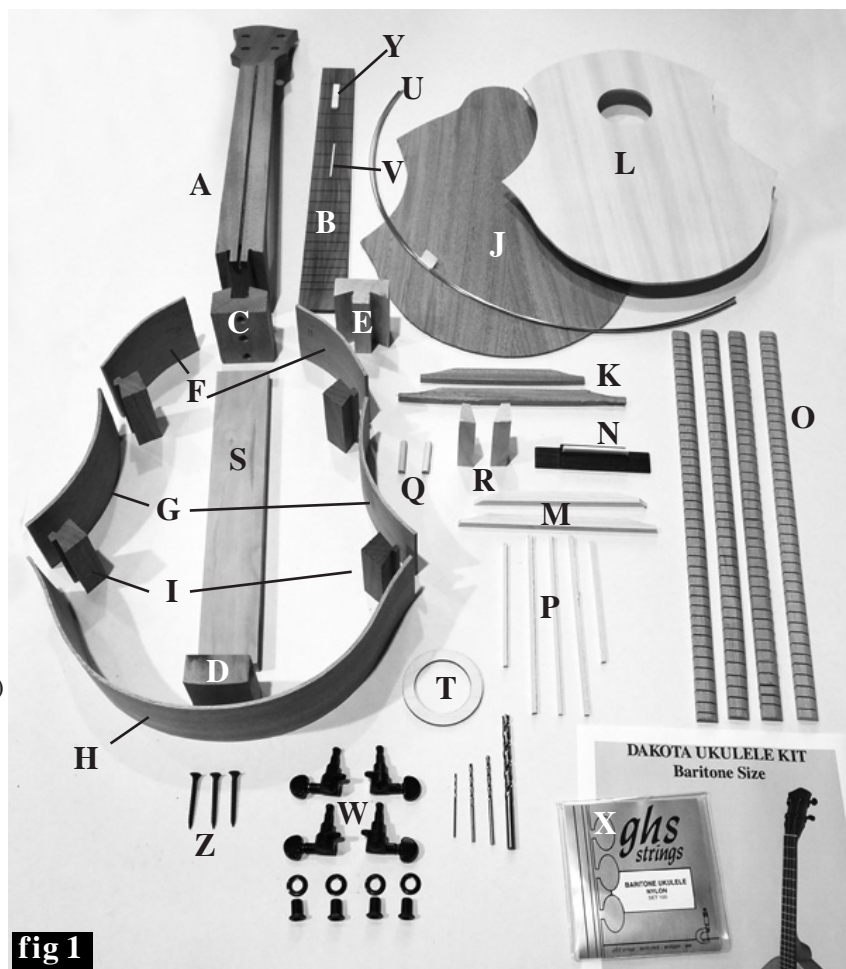

fig 1
1. CAUTION: PLEASE DO NOT OPEN THE SEALED PLASTIC BAG CONTAINING THE FRONT AND BACK PANELS UNTIL YOU REACH STEP #14. These two parts need to be kept very dry until you glue the braces on them. Check over your kit parts to make sure you find everything listed (see fig. 1 above). Contact us right away if you are missing anything so we can rectify the problem without causing too much delay for you. We also recommend checking off each step in the directions as you finish it. You might be skipping forward to another part of the assembly while waiting for something to dry, and it helps to keep track of where you left off.